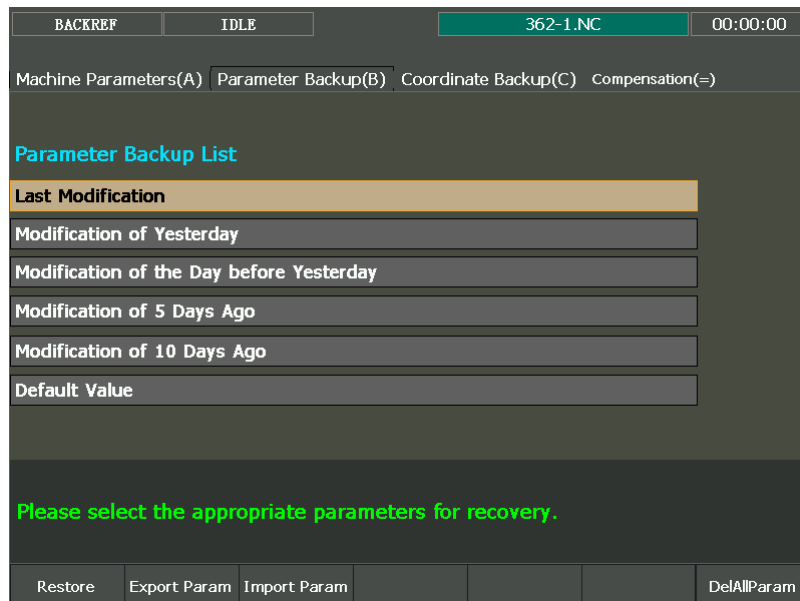

Fig. 3-67 Parameter auto backup
[Parameter Backup (B)] sub-function screen under [Parameter] function section is as shown in Fig. 3-67: in this screen, press “↑” and “↓” direction keys to select an effective backup parameter, and then press F1 and F7 to restore or delete the selected backup parameter. By pressing F2 and F3 respectively, the selected backup parameter can be exported to the USB device or the parameter in the USB device can be imported to the system.